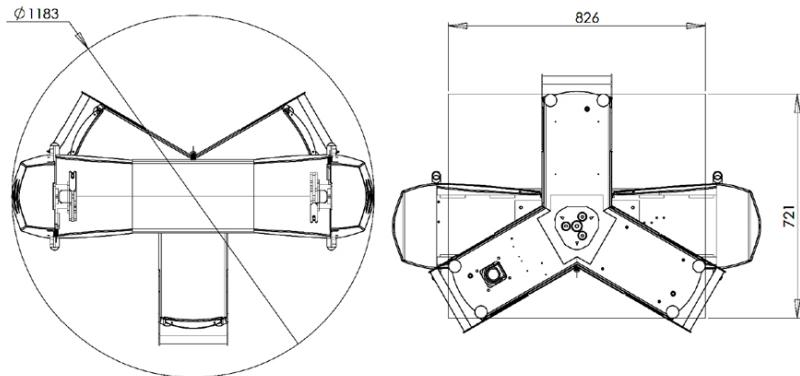

Figure 7-1 YK200 Footprint
- Footprint - see **Figure 7-1**